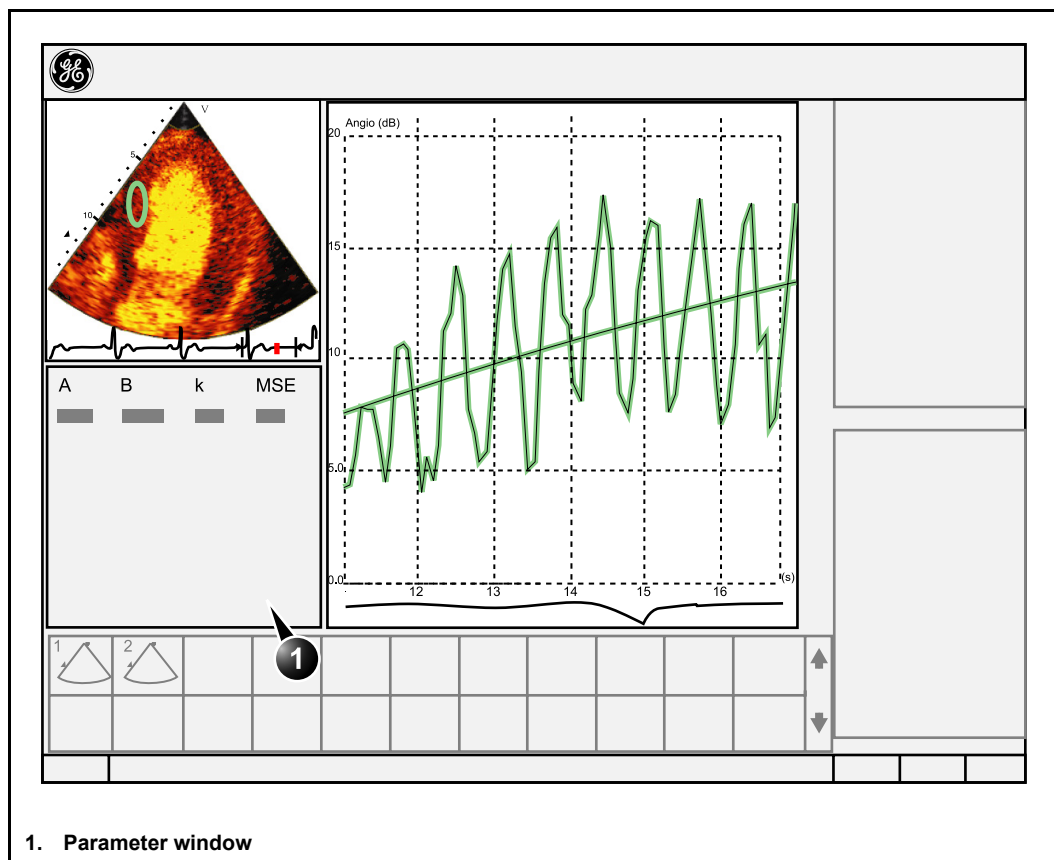

Figure 6-10: Wash-in curve fit of Real Time MC data
10. Select **Wash-in**. The Wash-in curve is displayed in the *Analysis window* (see Figure 6-10).